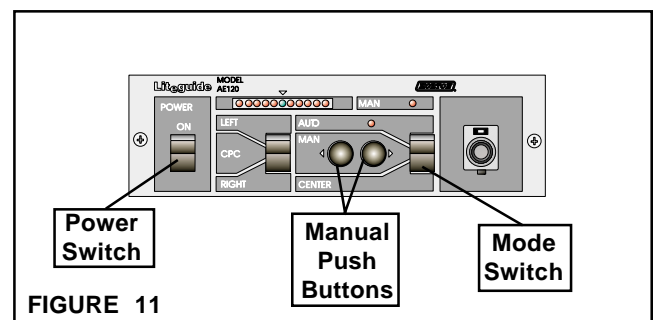

FIGURE 11
2. Set the AE120 Power Switch to **ON** and the Mode Switch to **MAN** (See Figure 11).